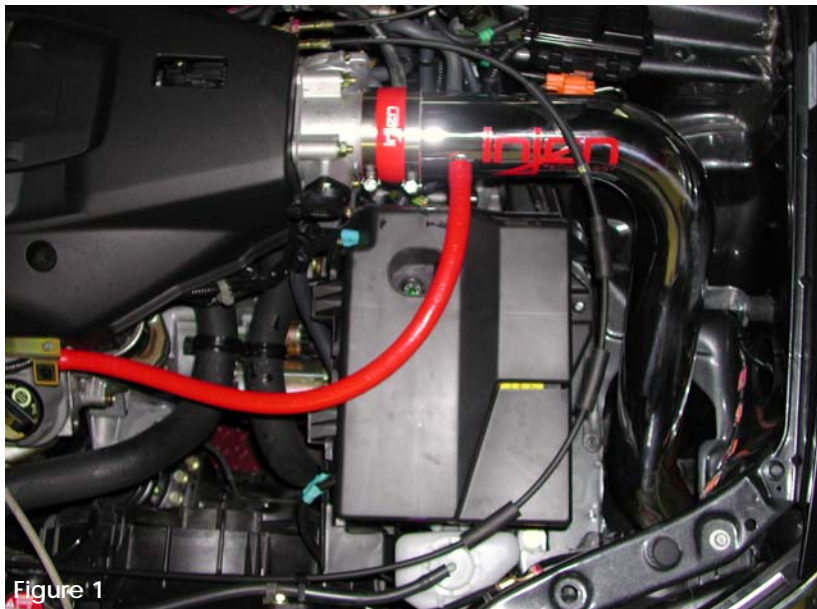

Figure 1
- 10 Align the entire intake for best fit. Make sure there is plenty of clearance around the diameter and length of the intake. Once proper clearance has been made continue to tighten all nuts, bolts and clamps. (See fig. 1 and 11)